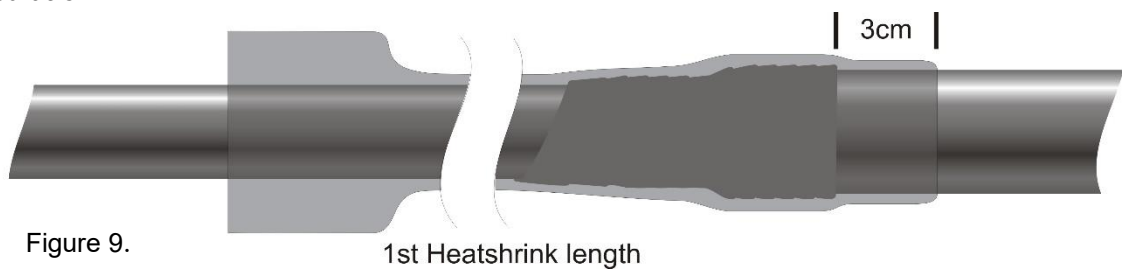

Figure 9.
10. Remove the plastic mast butt Adaptor section of the Mast Base Assembly (if fitted) by unscrewing the M6 Phillips head screw on the side. Straighten the cable as much as possible then carefully slip the first 1.2 m length of heatshrink over the cable until the end of the heatshrink tube covers and overlaps the semi-conductive tape (over the black outer sheath) by at least 3 cm. (Fig 9). **Ensure that the semi-conductive tape is not damaged or lifted during this process.** Using a gas torch or heat gun, carefully shrink the lower end of the heatshrink into the correct position and gradually work up towards the top of the heatshrink ensuring there are no pockets of air trapped under the heatshrink.